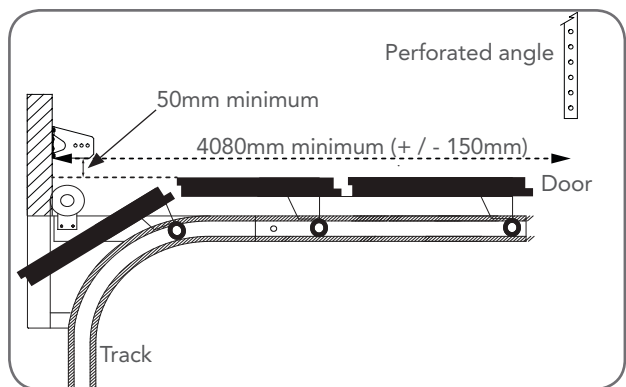
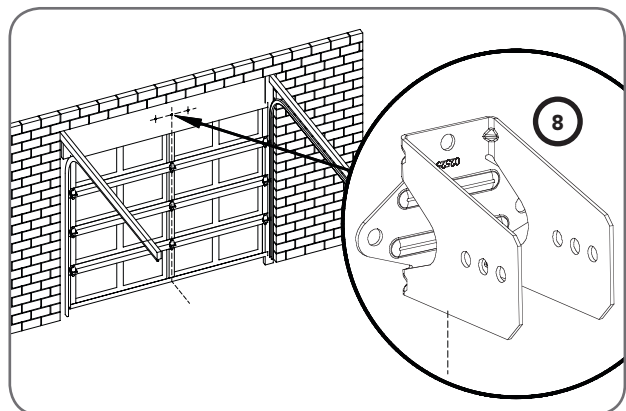

Fig 6.2
Fig 6.3
- Measure 50mm above the top of the door (at the door's highest point) and mark this position (**Fig. 6.2**).
- Mark the position of the wall bracket (8) holes on the wall above the door (**Fig. 6.3**). Check the bottom of the bracket is a minimum of 50mm above the top of the door when in the open position.
- Secure the wall bracket (8) in place with loxins or appropriate fasteners (not supplied).
- Measure 4080mm (+/- 150mm) across the ceiling from the wall centre point (**Fig. 6.2**). Install perforated angle or similar (not supplied).